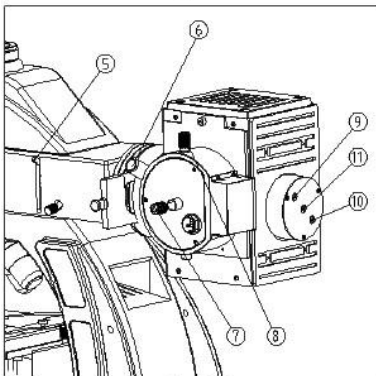
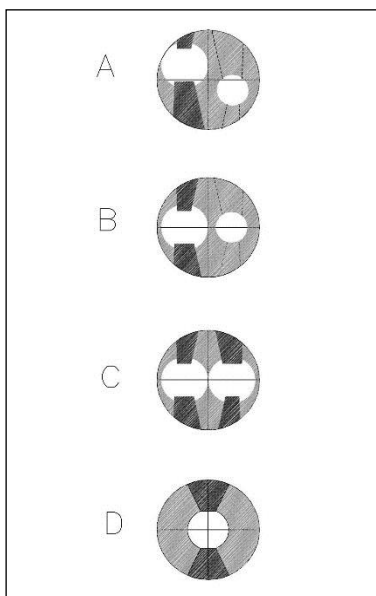

Fig. 21
Fig. 22
Slide the field diaphragm adjustment lever (5) (Fig. 21) to the top position. This opens the field diaphragm to its maximum position.
Adjust the condenser focusing knob (6) (Fig. 21), the vertical adjusting knob (7) of mercury bulb, and the horizontal adjusting knob (8) of mercury bulb to make the bulb image on the "+" scale of the slide (1). (Fig. 22 A)
Adjust the knob (11) of the parabolic mirror to focus, the horizontal centering knob (9), and the vertical centering knob (10) to make the bulb mirror image on the "+" scale of the slide (1). (Fig. 22 B)
Adjust the knob (9) and (10) to make the bulb image and bulb mirror image symmetrical to the "+" scale of the centering slide (1). Adjust the knob (11) to make both images the same size. (Fig. 22 C)
Adjust the screw (7) and (8) to make the two images superpose on the center of "+" scale. (Fig. 22 D)